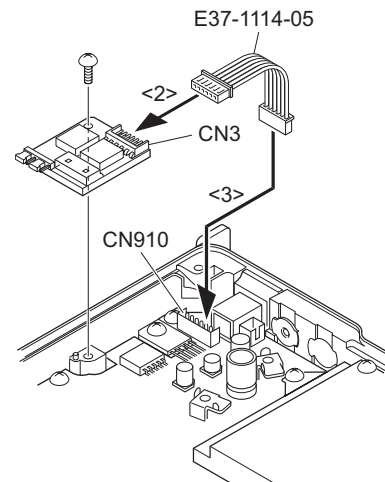

Fig.2-2
- (5) Place the relay unit at the position shown in Figure 2-2 and secure it to the chassis with a screw.
- (6) Remove the cap on the rear of the chassis by pushing it from the inside with your finger. <4>